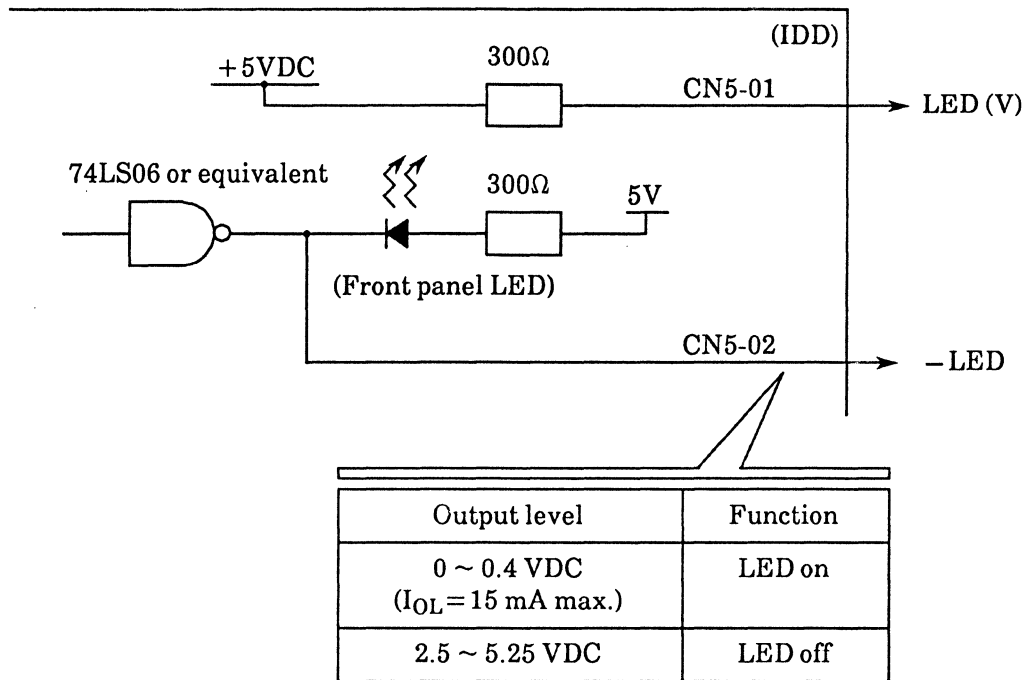

Figure 3.12 Electrical conditions of external LEDs
Figure 3.12 shows the electrical requirements for external LED. Output signals LED(V) and -LED are used to externally indicate the same information as the LEDs on the disk drive front panel.